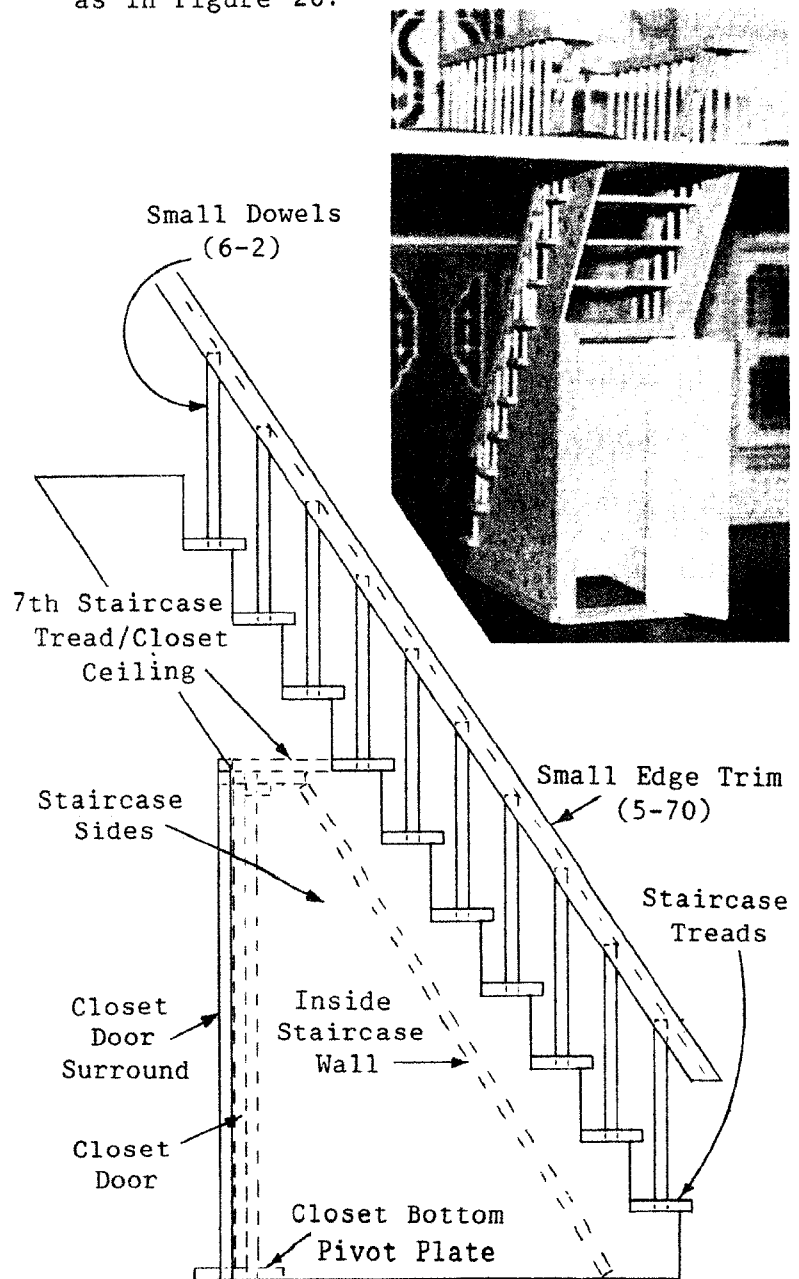

Figure 26
4. Assemble the staircase and closet door as in Figure 26.